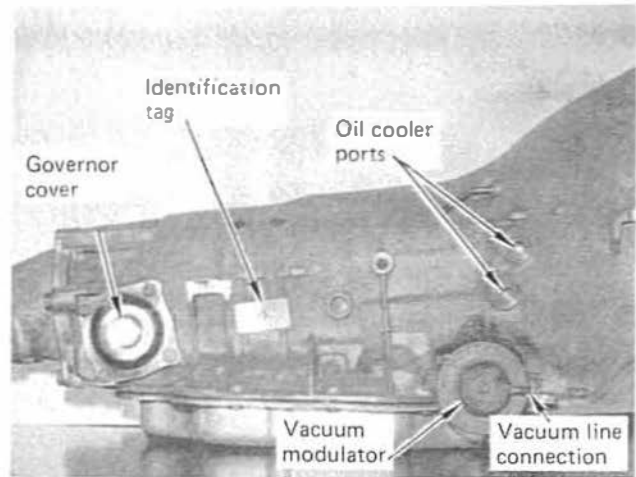

FIGURE 1
STEP 3. Loosen and disconnect oil cooler lines. Try to use a fitting wrench to avoid damaging the compression fitting nuts on stock oil cooler lines. Also disconnect vacuum line to vacuum modulator. (See Fig. 1)
There have been several different model TH400 transmissions produced since 1965. Where there are differences in disassembly procedures they will be so noted in the instructions. If you find it necessary to replace any transmission hard parts during TransKit installation, make sure to use the information on the I.D. tag on the right side of the case when you go to your G.M. dealer. (See Fig. 1)
STEP 10. Remove governor cover bolts and cover. (See Fig. 1) Remove and discard gasket. Remove governor by pulling straight out. Governor will rotate slightly during removal. Put governor in oil pan.